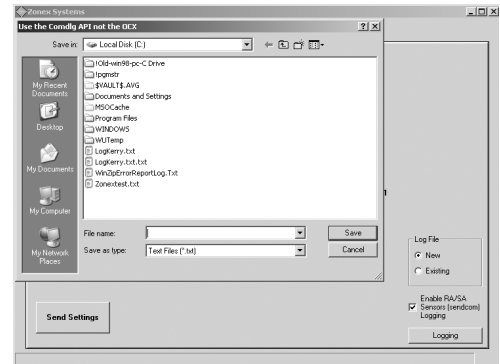

Fig. 33
5. The program must be named and then saved onto your C drive (see Fig. 33). For example, we saved a file named **Log Zones** in **C:\Program Files\Zonex Systems**.